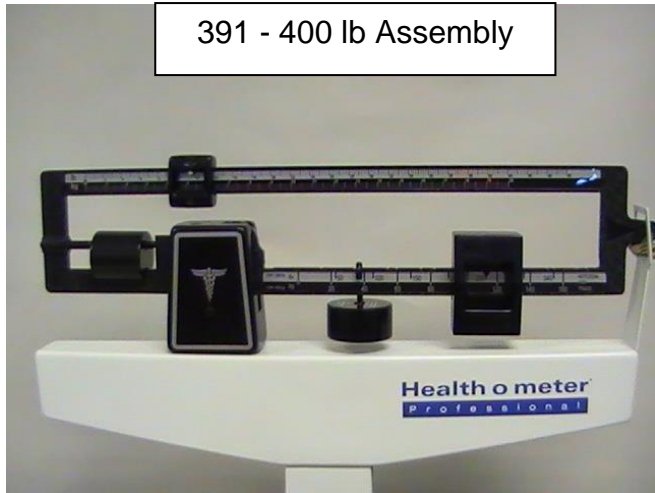

Figure 16
1. When a patient weighs between 391 - 400 lb, place the lower poise weight at 250 lb. (See Figure 16 on page 19)